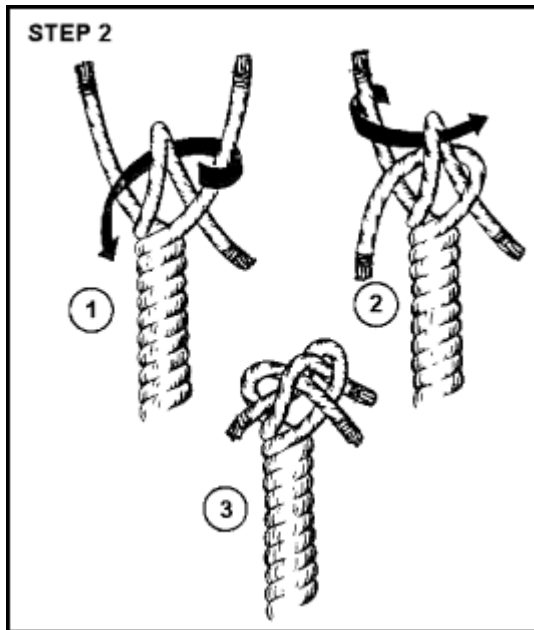

Figure 12-24. Making a Back Splice, Step 1
- Step 1. Unlay six turns of the line (Figure 12-24).